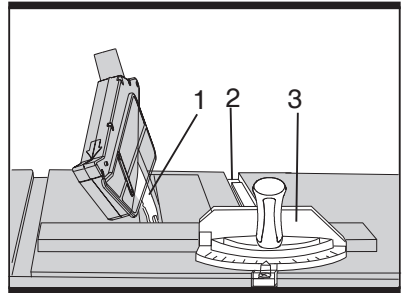

Fig 21
- 1) Adjust the blade (1) to the desired angle, and tighten the blade bevel lock knob.
- 3) Hold workpiece firmly against the face of the mitre gauge (3) throughout the cutting operation (See fig. 21).